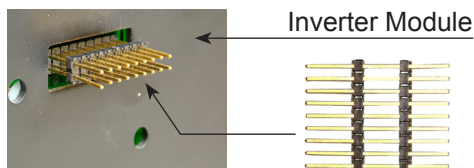

Fig. 4, 18-pin Jumper Installation Location
- Insert the 18-pin jumper into the Inverter Module (Fig. 4).